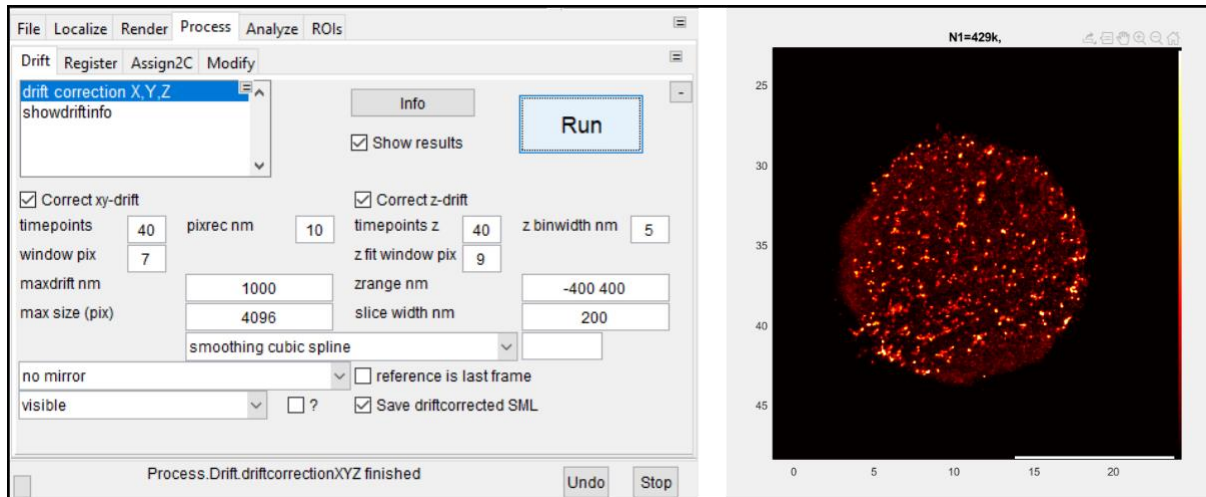

Figure 6: GUI for drift correction.
2. Ensure on top right corner of SMAP GUI, only Layer1 is checked for display. Only the UAF part is taken for drift correction as shown in Figure 6.
3. Keep the parameters for drift correction as shown in Figure 6. The following parameters are important: